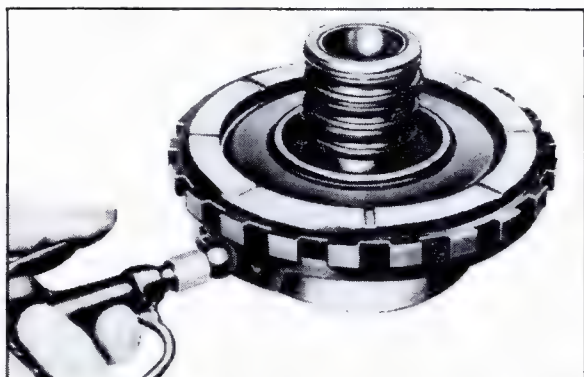

Fig. 7-91 Air Checking Intermediate Clutch
7. Air check operation of intermediate clutch piston. Apply air through center oil feed hole to actuate clutch pistons, Fig. 7-91.